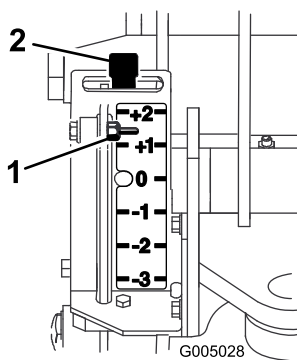
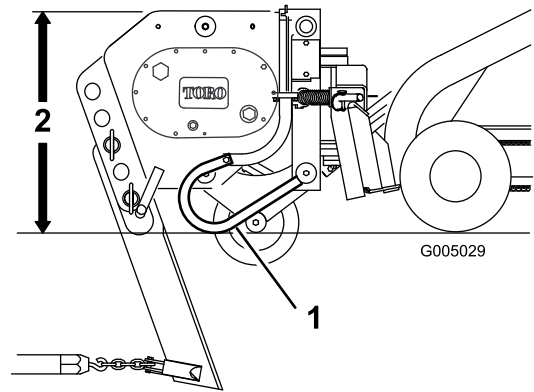

Figure 6
Figure 7
5. Tilt the attachment plate completely back so that the top of the plow is parallel to the ground (Figure 7).
The gauge is located on the left side of the plow facing the traction unit. A rod assembly runs from the gauge to the ground. When the plow is lifted, the indicator on the gauge moves down. Marks on the gauge show the number of inches lower or higher than the maximum depth that you are plowing. The gauge reads from +2 to -3 inches (+5 to -7.6 cm), with zero being the maximum depth on bare ground and -3 being 3 inches (7.6 cm) above maximum depth. Figure 6 and Figure 7 illustrate the gauge.